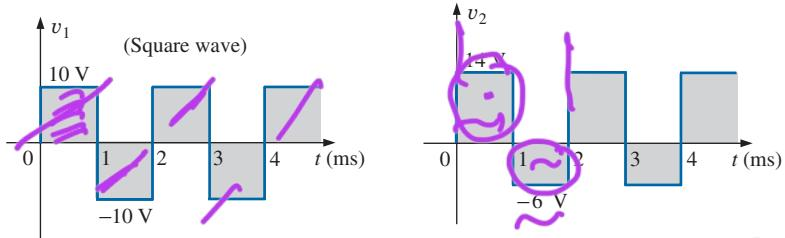

FIG. 13.44
**EXAMPLE 13.14** Determine the average value of the waveforms in Fig. 13.44.
In reality, the waveform in Fig. 13.44(b) is simply the square wave in Fig. 13.44(b) with a dc shift of 4 V; that is,
Defining the average value for the waveform in Fig. 13.44(b).